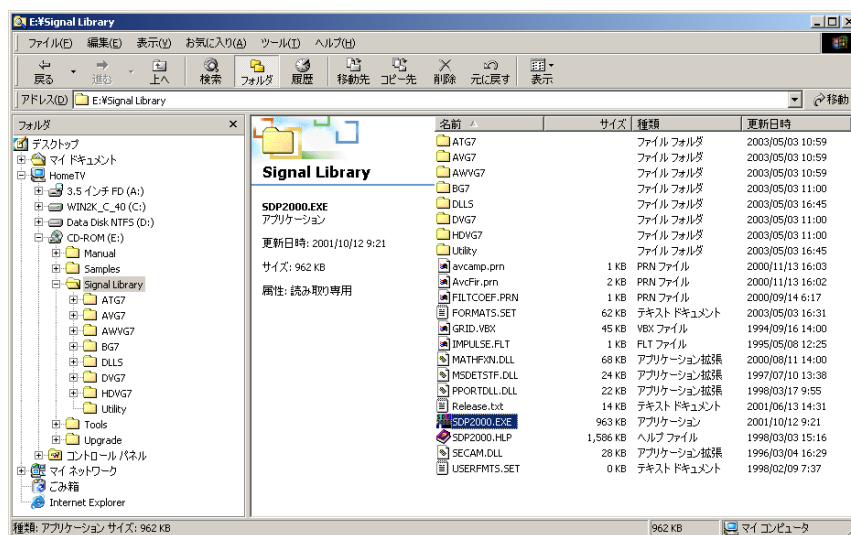

Figure 1 Signal Library / SDP2000.EXE in CD-ROM
STEP 1 Select CD-ROM drive from Windows Explorer. With this, the content under Signal Library directory in the CD-ROM is displayed (refer to Figure 1).